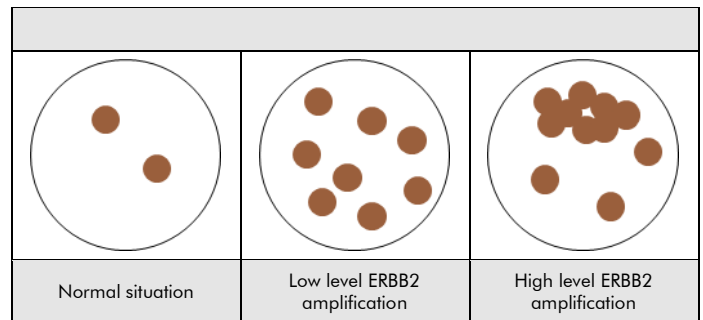

Fig. 2: Expected results in normal and aberrant nuclei
**Normal situation:** In interphases of normal cells or cells without an amplification involving the ERBB2 gene region, two distinct dot-shaped brown signals appear (see Fig. 2).
**Aberrant situation:** In cells with an amplification of the ERBB2 gene region or polysomy of chromosome 17, an increased number of the brown signal or brown signal clusters will be observed (see Fig. 2).